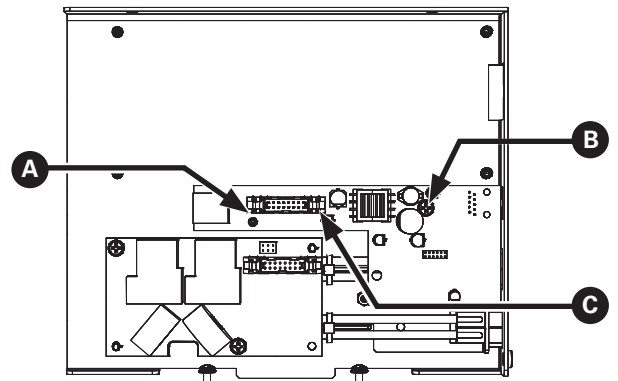

Fig. 2-24, AlphaApps Card Standoff, Screw and Ribbon Cable Locations
2. With the front panel open, install the AlphaApps card by pressing it firmly onto the standoff **A** and fastening the 6-32 screw **B** (see **Fig. 2-24**).